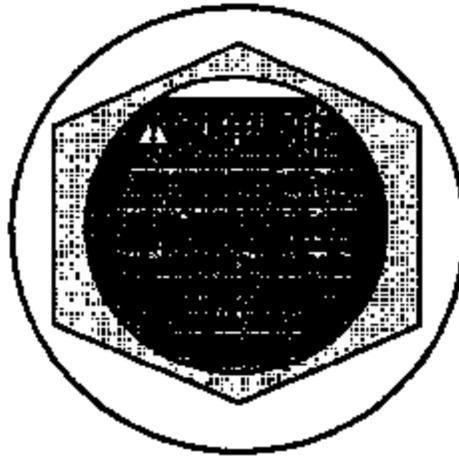

Figure 6
10. Apply the spindle warning label provided in the kit to the spindle end before installing the hub cap. Refer to Figure 6.